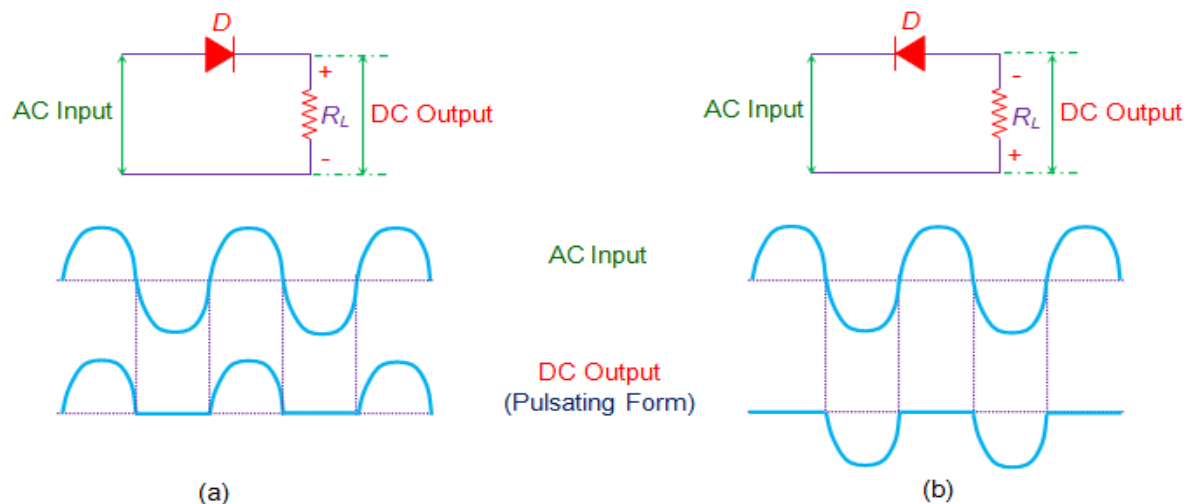

Figure 1 Half Wave Rectifier with Input and Output Waveforms
Rectifiers are the circuits used to convert alternating current (AC) into direct current (DC). Half-Wave Rectifiers are designed using a diode (D) and a load resistor (R_L) as shown in Figure 1. In these rectifiers, only one-half of the input waveform is obtained at the output i.e. the output will comprise of either positive pulses or the negative pulses only. The polarity of the output voltage so obtained (across R_L) depends on the direction of the diode used in the circuit of half-wave rectifier. This is evident from the figure as Figure 1a shows the output waveform consisting of only positive pulses while the Figure 1b has only negative pulses in its output waveform.